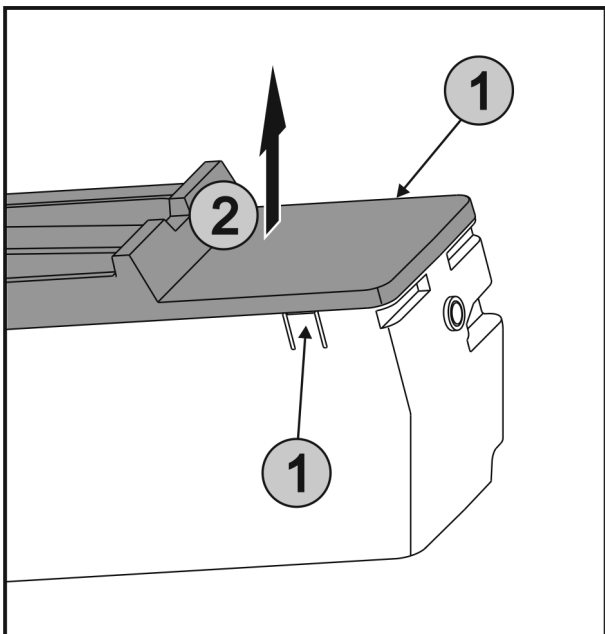

Fig. 64
- ▶ Press the lugs Fig. 64 (1) on both sides of the EasyTwist-Ice simultaneously and take off the cover Fig. 64 (2) upwards.